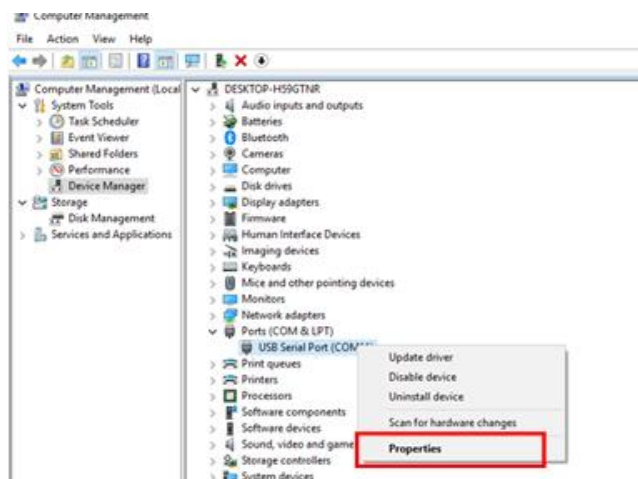

Fig.3.35
5) Right click on 'USB Serial Port', and select 'Properties' on the pop-up menu (Fig.3.35).